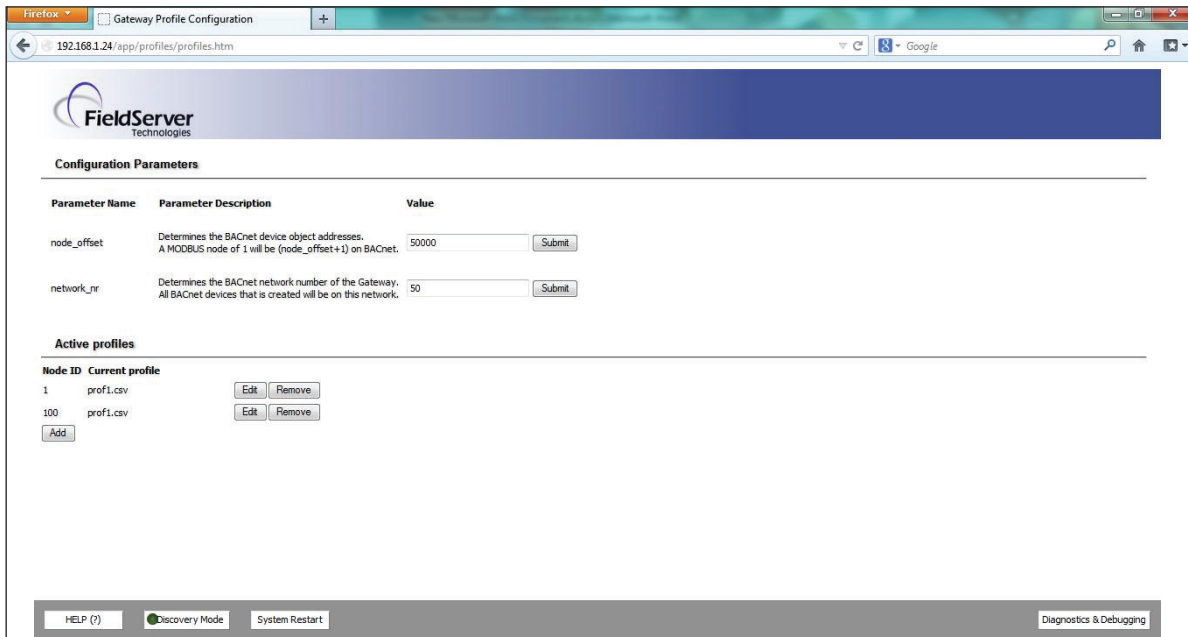

Figure 7: FST Web GUI screen
- If the Device Instances need to be set for addresses other than 50,000 to 50,127, change the Node+Offset (50,000 is the default for Node+Offset). See Section 4.1 to set the PC's IP address to the same Subnet as the ProtoNode and Section 4.2 to connect to the ProtoNode's Web Configurator which is shown in Figure 7.